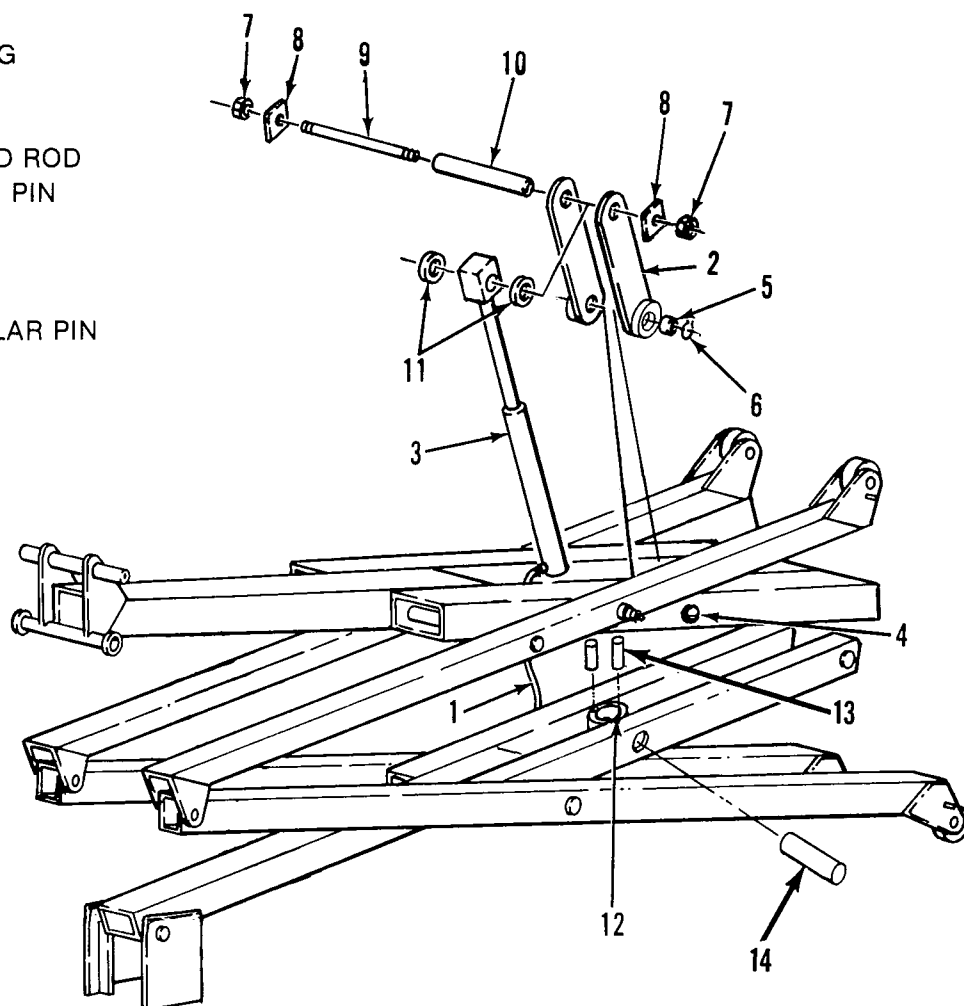

Figure 5-18. Lift Cylinder Removal, XL-14
5-24. LIFT CYLINDER, XL-14 (Figure 5-18).
- (1) Remove the platform floorboard.
- (2) Refer to Figure 5-18 and remove the nuts (7) and washer (8).
- (3) Slip the threaded rod (9) and cylinder pin (10) to one side to allow plate (2) to swing free. Lower the plate (2) and repeat same procedure for opposite side.
(4) Provide a suitable container to catch the draining hydraulic fluid then, disconnect the hydraulic hose (7) and fitting from the base of the lift cylinder (3) and plug hose to prevent foreign material from entering.
(5) Attach a suitable hoisting device and sling to the top of the lift cylinder (3).
(6) Remove drive pins (13), cylinder collar pins (14), and lift cylinder (3) from the collar (12) to a prepared work area.
(1) Refer to Figure 5-18 and assemble the lift cylinder (3), cylinder pin (10), spacers (11), and threaded rod (9).
(2) Attach a suitable hoisting device and sling to the top of the lift cylinder assembly, and position the cylinder over the collar (12) then, lower the lift cylinder through the collar.
(3) Replace cylinder collar pin (14) and drive pins (13) to secure lift cylinder in collar.
(4) Connect the hydraulic hose (1).
(5) Slide the cylinder pin (10) and threaded rod (9) to one side. Raise the plate (2), of the opposite side, into position. Slide the cylinder pin (10) and rod (9) threaded through the plate (2) a sufficient distance to allow the other plate (2) to be raised into place. Center the cylinder pin (10) and threaded rod (9) then install the washers (8) and nuts (7).